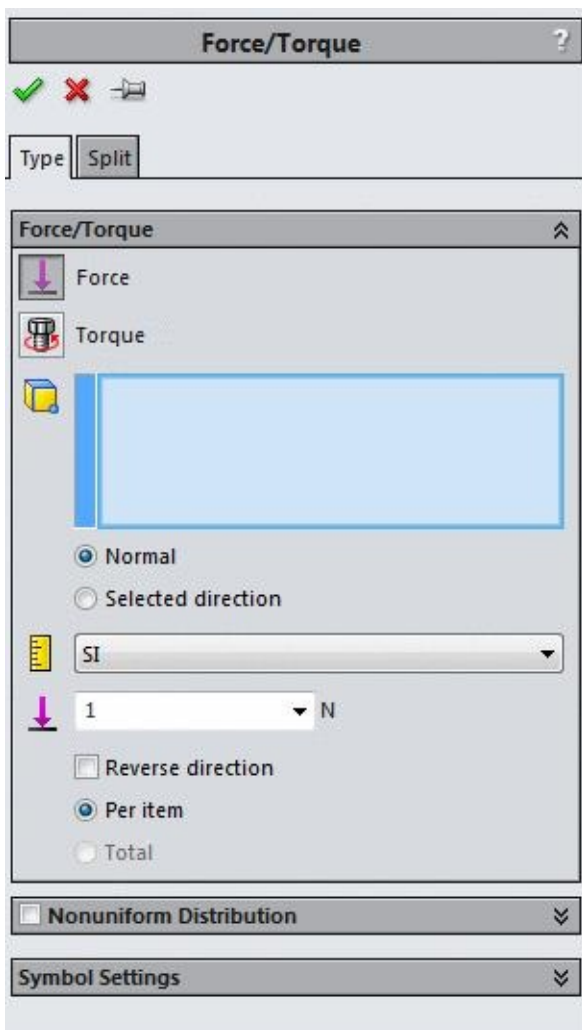

Figure-4. Force Torque PropertyManager
- Click on the **Force** button from the list. The **Force/Torque PropertyManager** will be displayed; refer to Figure-4.